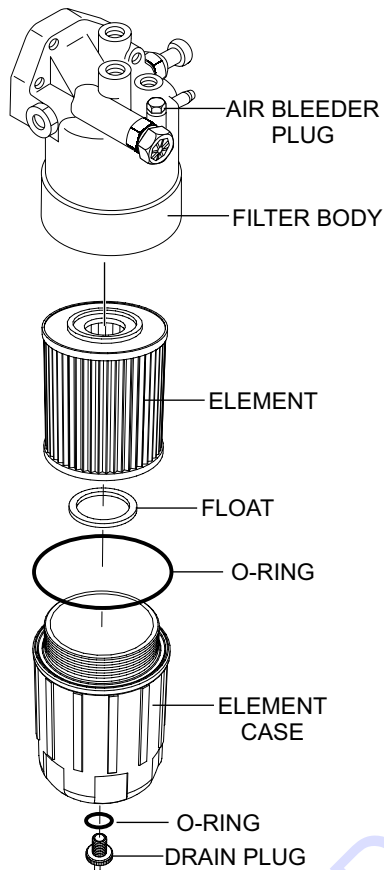

**Figure 83. Draining Fuel Filter**
Inspect the fuel filter **daily**. If the fuel filter (Figure 83) has collected a significant amount of water and sediment at the bottom of the cup, it should be drained off immediately.
1. Loosen the air bleeder plug (Figure 83) on the fuel filter body.